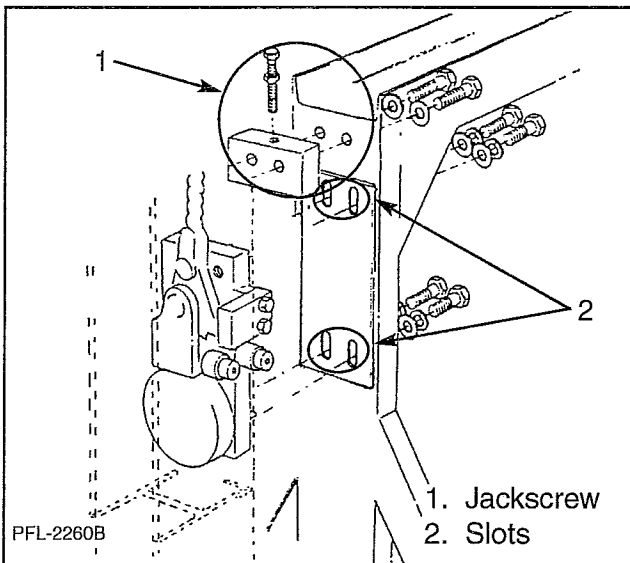

Figure 11
7. Upper wheelblock should be installed at the middle of the slots in the upright. Install jackscrew above upper wheelblock on side of carriage that has slots in the upright. See Figure 11.
1. Loosen wheelblock mounting bolts on side of the carriage with the jackscrew. See Figure 11.